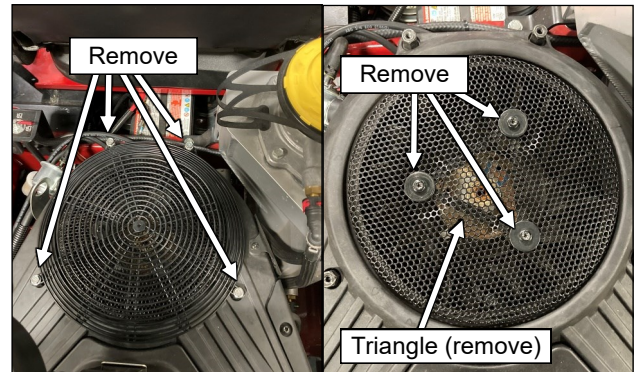

Fig. 1.3 (Remove engine screens)
- 1.3 See fig. 1.3. Remove the upper wire screen and lower mesh screen from the top of the vehicle's engine. Discard the upper screen, but retain the lower mesh screen, triangle, and hardware.